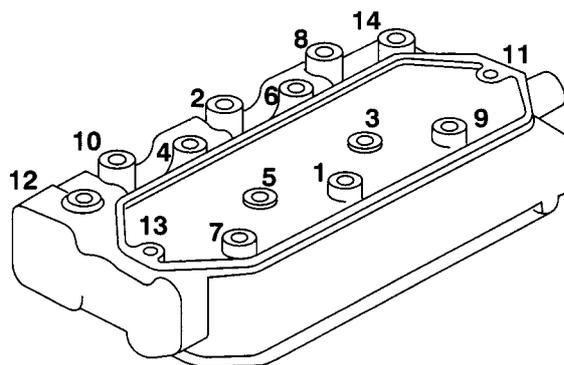

Figure 24
2. Using the sequence in Figure 24, torque the head bolts to 34 Nm.